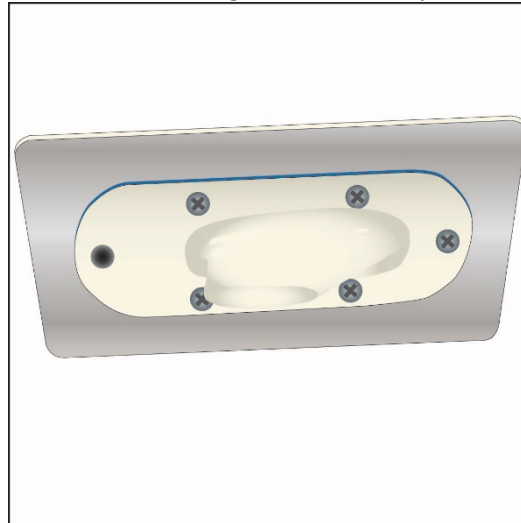

Figure 6
- 5) Install all remaining fasteners except one. (Figure 6)